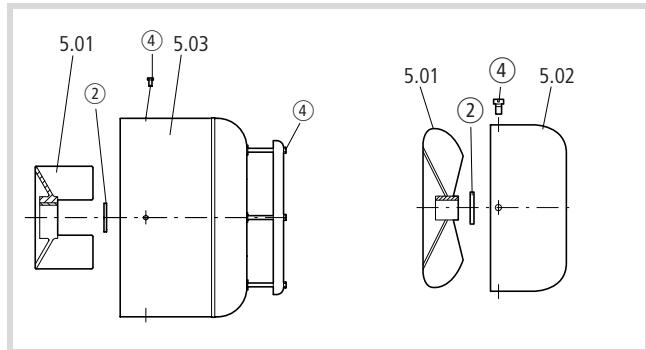

Figure 3: Undoing cowl screws and removing the retaining ring
- Remove the fastening screws ④ of the fan cowl (5.02-03) and remove it (→ Fig. 3).
- Remove the retaining ring ② from the fan (5.01).